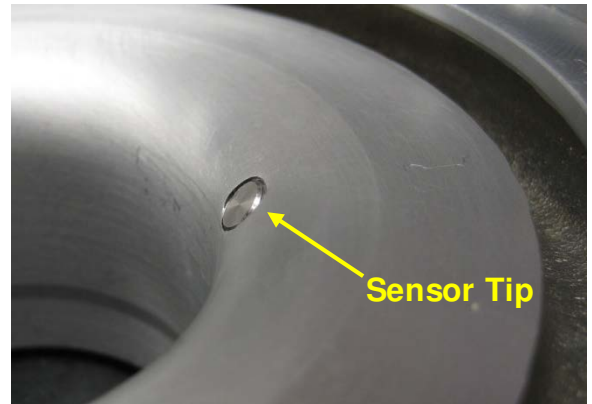

Fig. 8
**IMPORTANT:** Make sure the **tip** of the sensor is approximately flush with the inside contour of the housing. (see figure 8). Tighten the M4 spacer screw once the sensor has been installed in the housing.